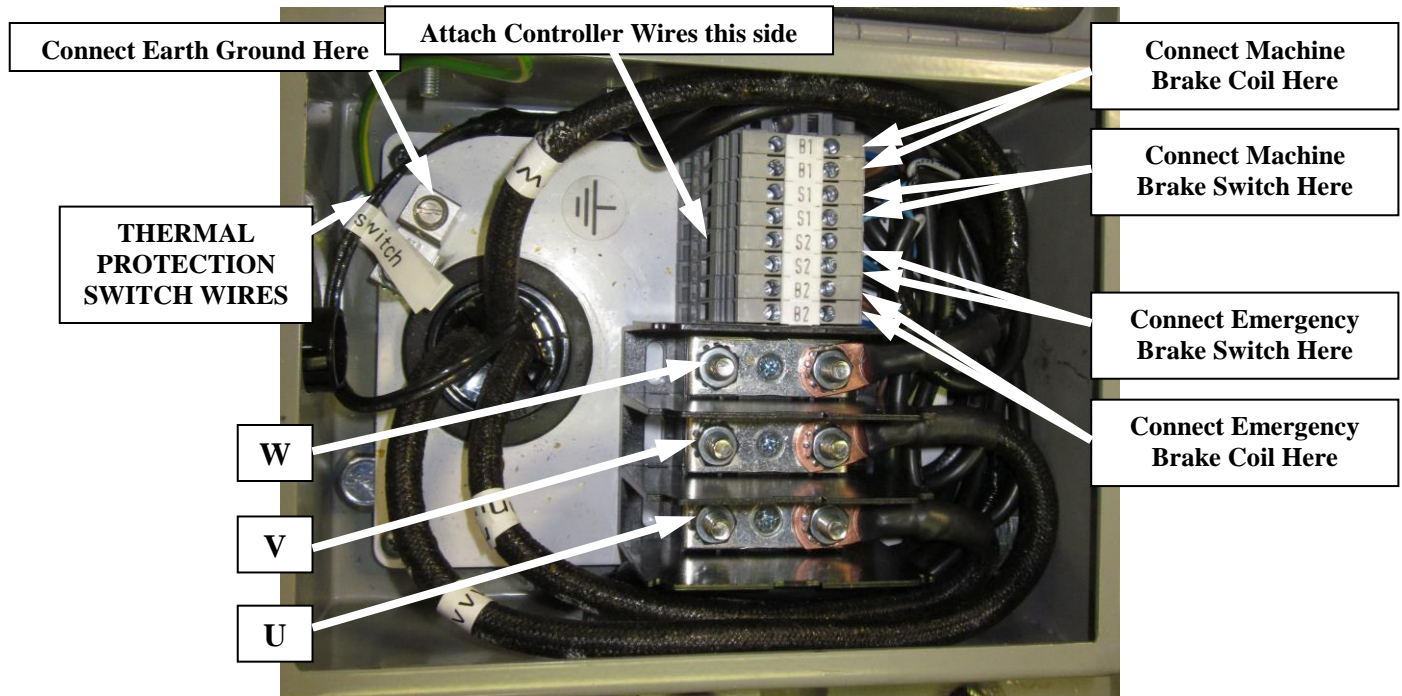

Figure 8
- Thermal Protection Switch (TPS) is wired with leads labeled and supplied into the machine electrical enclosure. Refer to Figure 8. Contacts are Normally Closed, opening if an overheat condition exists, and will close again after the machine has cooled to safe operating temperatures.
- Connect the U-V-W lines from the drive as they correspond to motor. See Figure 8.
- Connect the machine and emergency brakes where shown in Figure 8.